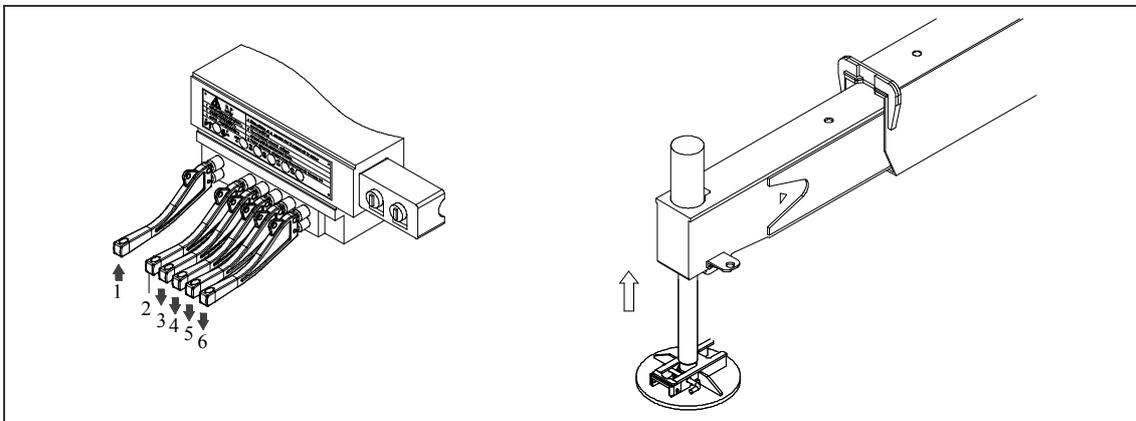

Fig. 04 – 23
d) As illustrated in Fig. 04 – 24: